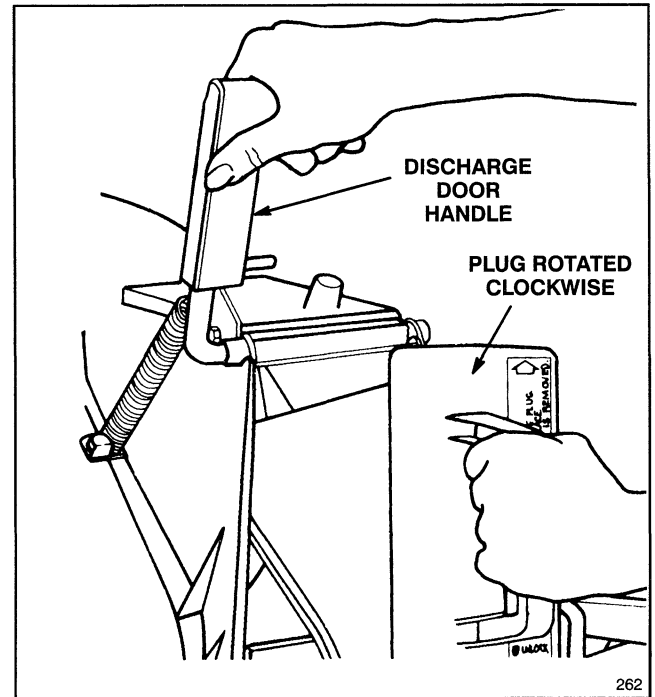

Figure 5
- Open the discharge door by pulling forward on the handle and moving it rearwards (Fig. 5). Hold the
- Since the plug is slightly wider than the discharge tunnel opening, rotate the plug clockwise slightly while inserting it (Fig. 5). Make sure the arrow on the plug decal is pointing upwards.